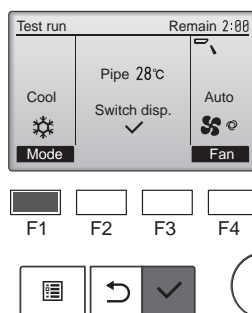

Fig. 7-3
- ① Press the [F1] button to change the operation mode. (Fig. 7-3)